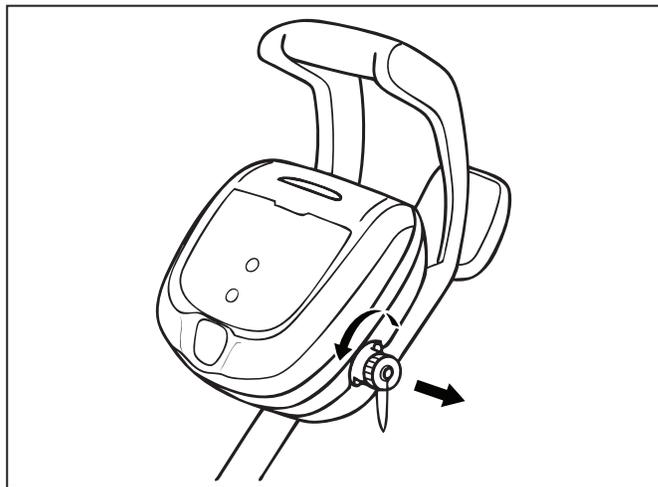

Figure 10. Remove Protective Cap
- **U.S.:** Per NEC® requirements, keep the control unit at least five (5) ft. (1.5 m) from the edge of the pool. **CANADA:** Per CEC requirements, keep the control unit at least three (3) m (10 ft.) from the edge of the pool.
1. Unscrew the protective cap for the floating cable from the side of the control unit by turning counter-clockwise (Figure 10).